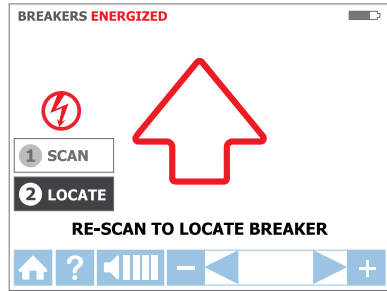

Figure 3.3d: LOCATE mode – Searching for correct breaker/fuse
1. Select LOCATE mode by using the directional arrows and pressing the yellow ENTER button (Figure 3.3d).